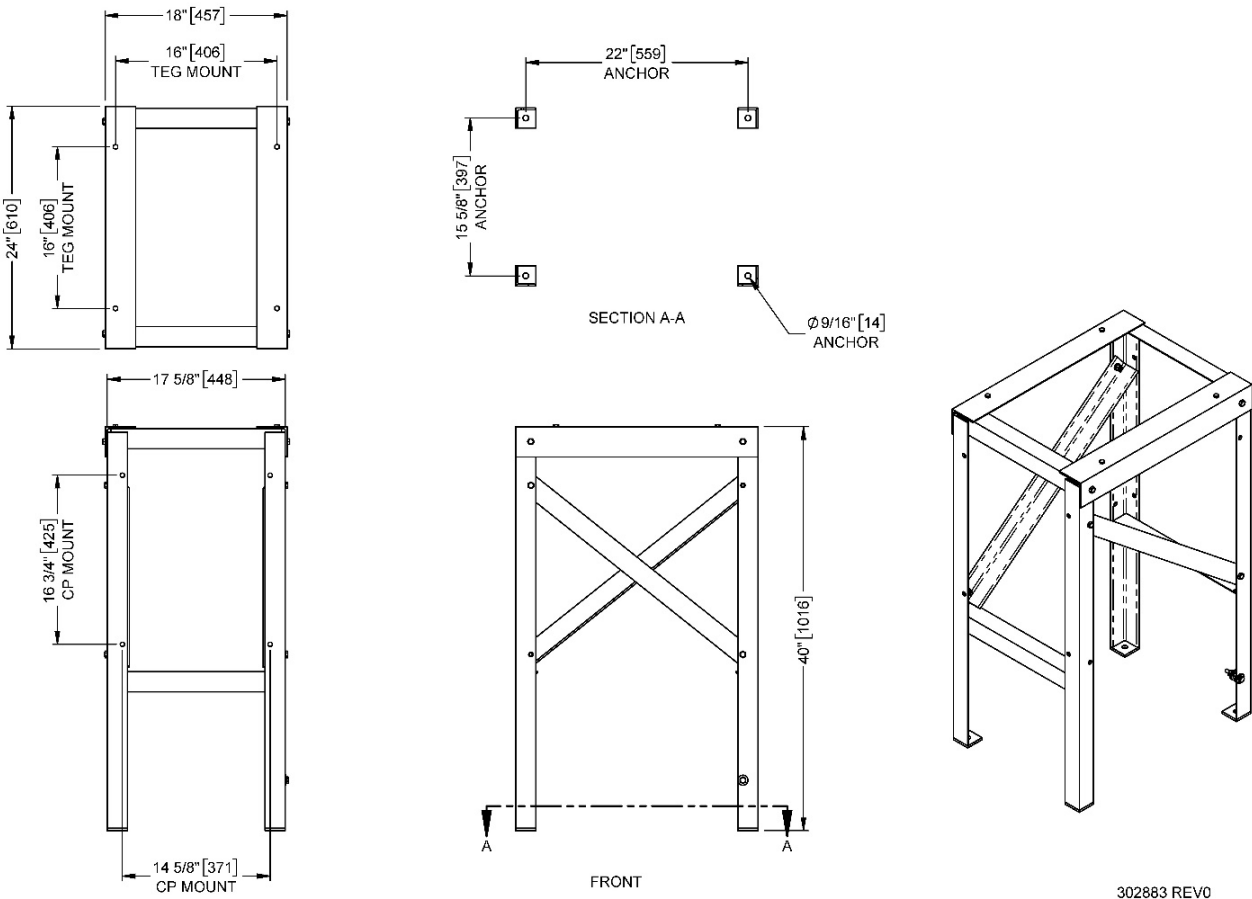

Figure 4 – TEG Stand
6. If the TEG was shipped with the optional TEG stand, assemble the stand as shown on Figure 4 and install it on a stable, level base. If the TEG does not have the stand option and a custom platform or stand has already been installed, confirm that the stand is bolted securely to the base, level and does not deviate by more than 3°, then proceed to the next step.